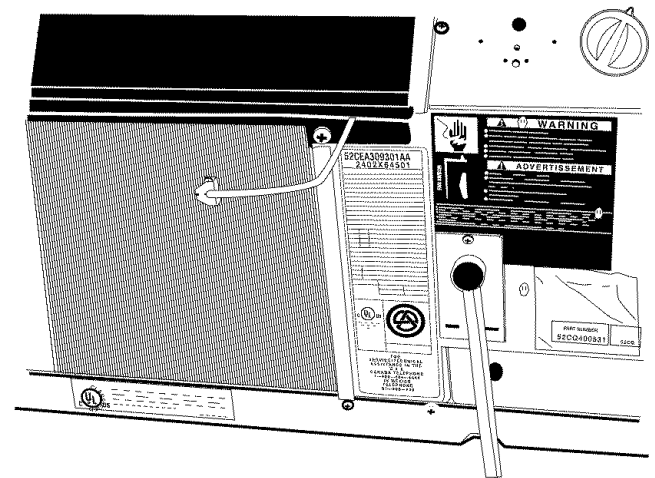

Fig. 10 — Sensor Clip for Indoor Coil Freeze Thermostat (IFT) on Typical Unit
- d. Bend clip on scored line and install in fins (the curved notches will lock clips in place) next to sensor to hold sensor in place in the coil. See Fig. 10.